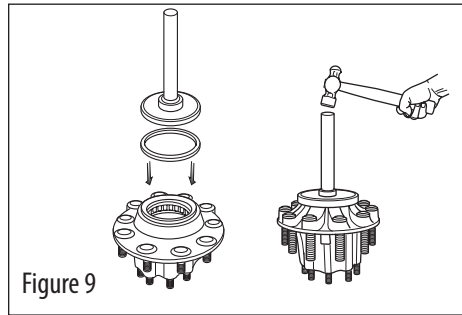

Figure 9
5. Position the seal into the hub bore with the "AIR SIDE" visible. Use the appropriate ConMet installation plate (see chart below) and a generic seal tool handle or a flat plate and small mallet to hammer seal into place. Do not hammer directly on the seal. Make sure the seal is uniformly bottomed in the bore. (see Figure 9). Check to be certain the seal is not cocked and that the seal inner diameter and the inner bearing turn freely.